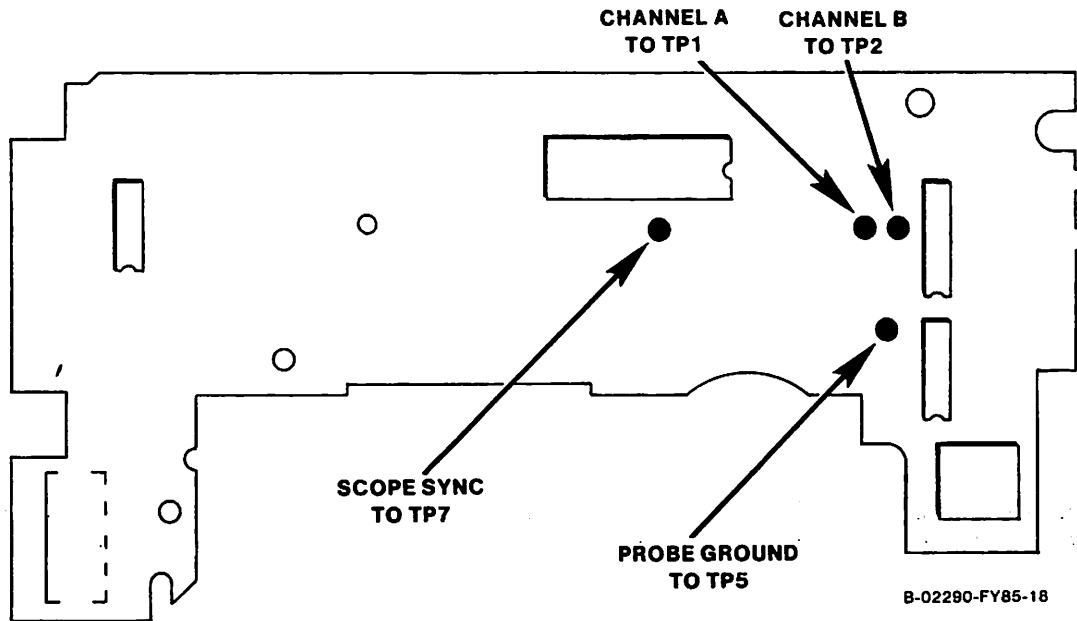

Figure J-4. Track Zero Detector Test Point Locations
- 1) Set up the oscilloscope as follows (figure J-4):